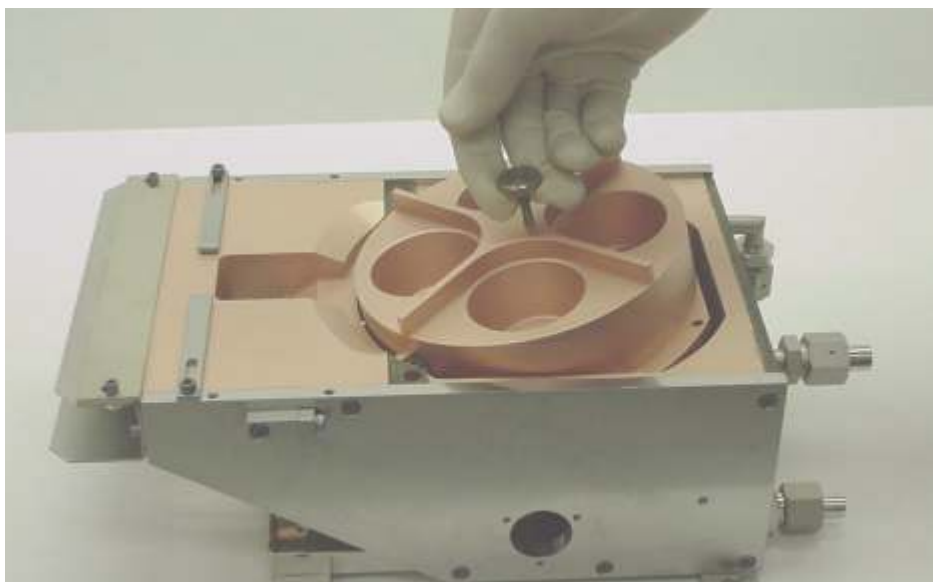

Figure 3-7. Source with crucible cover removed and knurled thumbscrew in place in top of the crucible
7. Screw the knurled thumbscrew into the tapped hole provided for it in the top of the crucible. Then rotate the crucible so that the off-center thumbscrew is toward the rear of the source, as shown in Figure 3-7.